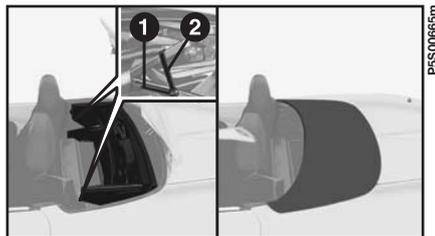

fig. 57
7) With the whole hood folded inside the hood compartment, press the framework and turn the fastener from position **1**-**fig. 57** to position **2** so that it hooks onto the framework. Let the framework go and the hood will remain blocked in position. Do the same operation on both sides.